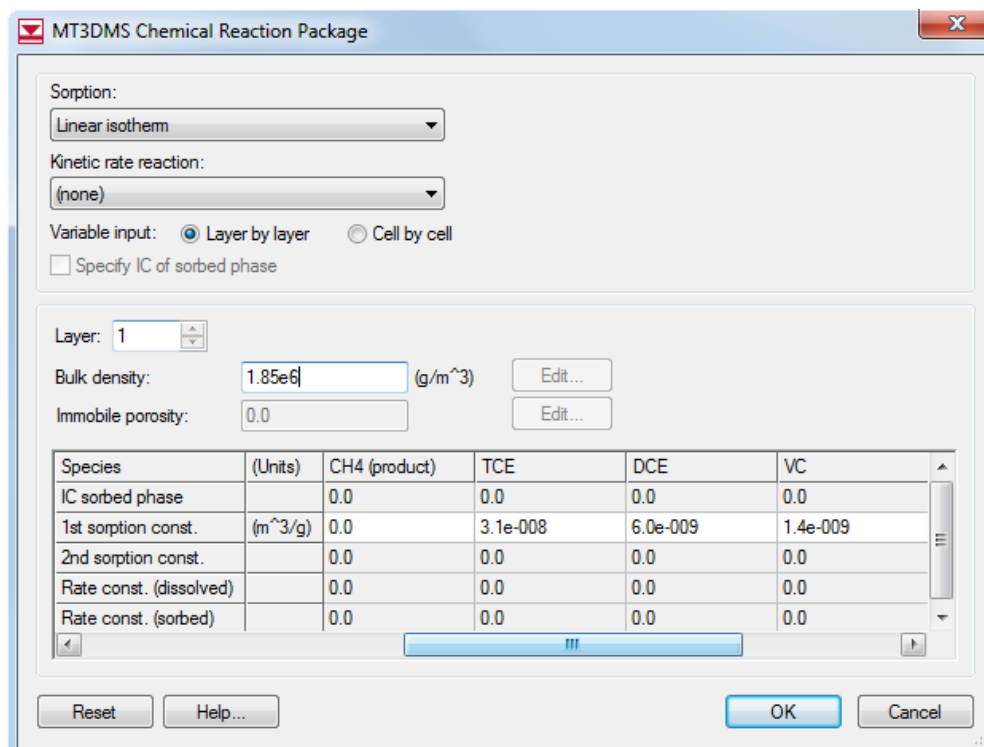

Figure 2. MT3DMS Chemical Reaction Package dialog.
3. Enter the values shown in Figure 2 for *Bulk Density* and *1st sorption const.* values for TCE, DCE, and VC.